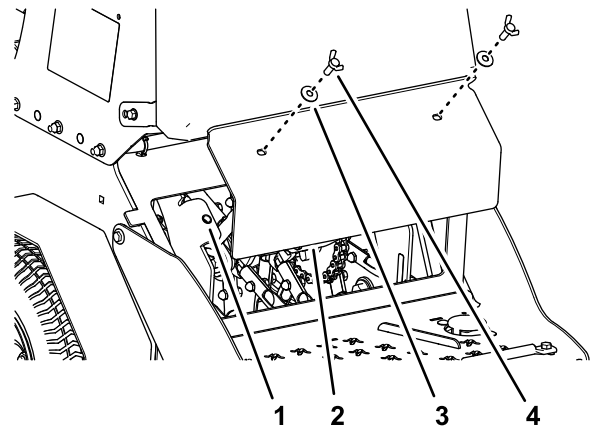

Figure 61
3. Remove the 2 thumbscrews (3/8 x 1 inch) and 2 washers (3/8 inch) that secure the rear-cover panel to the chassis, and remove the panel (Figure 61).
6. Align the holes in the rear-cover panel to the holes in the chassis (Figure 61).
- Secure the cover panel to the chassis with the 2 thumbscrews and 2 washers (Figure 61) that you removed in step 3, and torque the bolts to 37 to 45 N·m (27 to 33 in-lb)